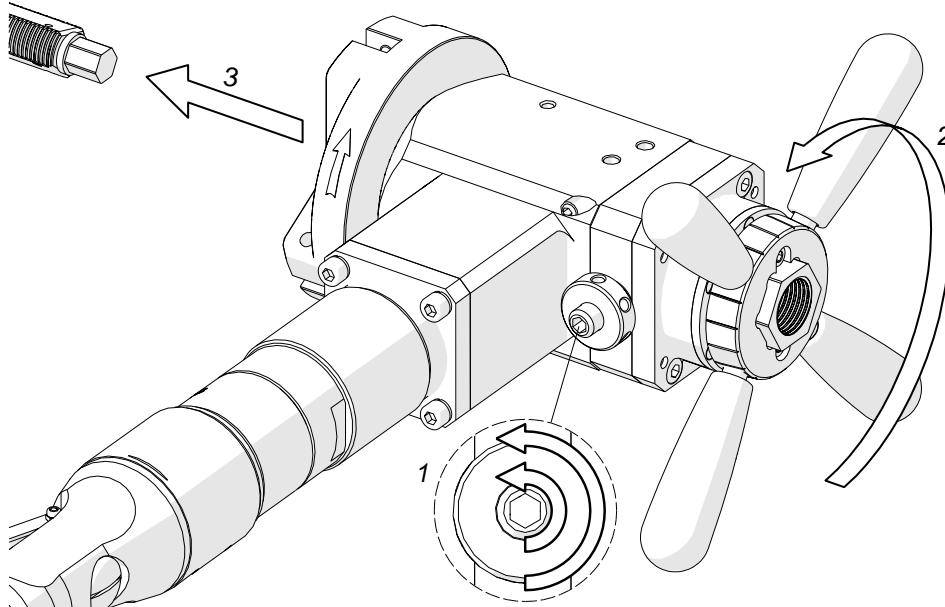
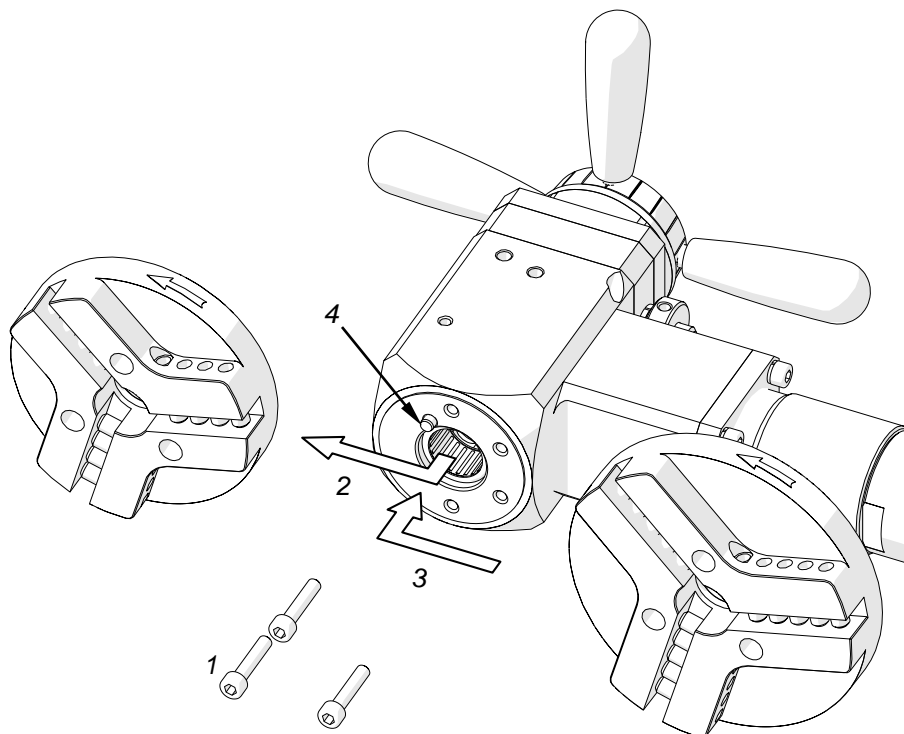

Fig. 7. Removing the mandrel from the machine
Fig. 8. Replacing the spindle disk
Loosen the nut and use the 6 mm hex wrench to loosen the set screw (1, Fig. 7) by at least one turn. Then, rotate the handles to the left (2) to remove the mandrel (3).
Use the 5 mm hex wrench (1, Fig. 8) and remove the spindle disk (2). Then, install the new disk (3) onto the pin (4) and tighten with the same screws.
To install the spindle disk, remove the installed existing spindle disk (Fig. 7, Fig. 8). Then, use the table that follows to select the correct jaw blocks of the set for the inner diameter of the pipe to be machined. Use the 3 mm hex wrench to tighten the blocks to the expanding mandrel (1, Fig. 2). Use the 4 mm hex wrench to tighten the tool bits in the sockets with the screws (3, Fig. 2).